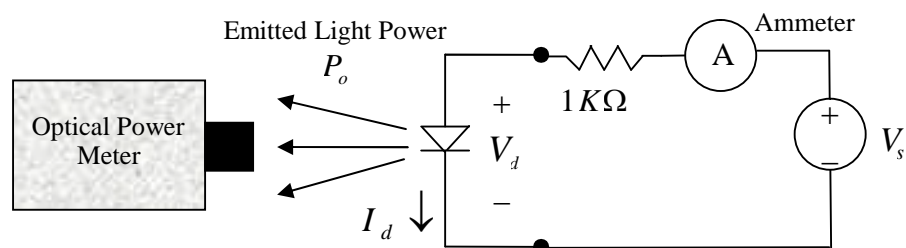

Figure 3: Setup for Measuring Part of the Optical Power Emitted by the LED.
The experimental setup used in part A of this experiment is capable only of measuring part of the emitted optical power (see Figure 3). Because we are interested in measuring the diode *linearity* with respect to the diode current, then we need only to detect a fraction of the emitted power, which is obviously proportional to the total power emitted, provide we *fix* the location of the optical power meter relative to the LED. It is thus important in this experiment *not to move* either the power meter or the LED after we start measurements.
- 1- Connect the circuit shown in Figure 3. The ammeter should be connected in series with the $1K\Omega$ resistor in order to directly measure the diode current I_d and the voltmeter should be connected across the diode to directly measure the diode voltage V_d .
- 1- Use the previous circuit and set the source voltage to $V_s = 25V$ (Figure 3).